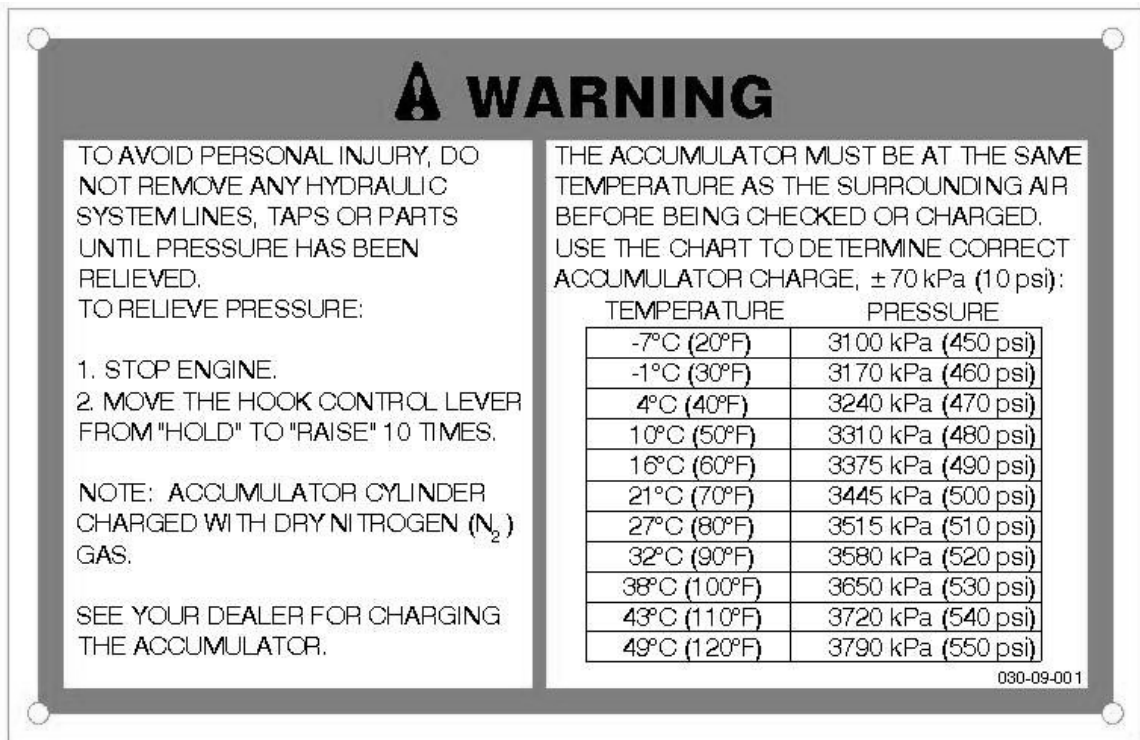
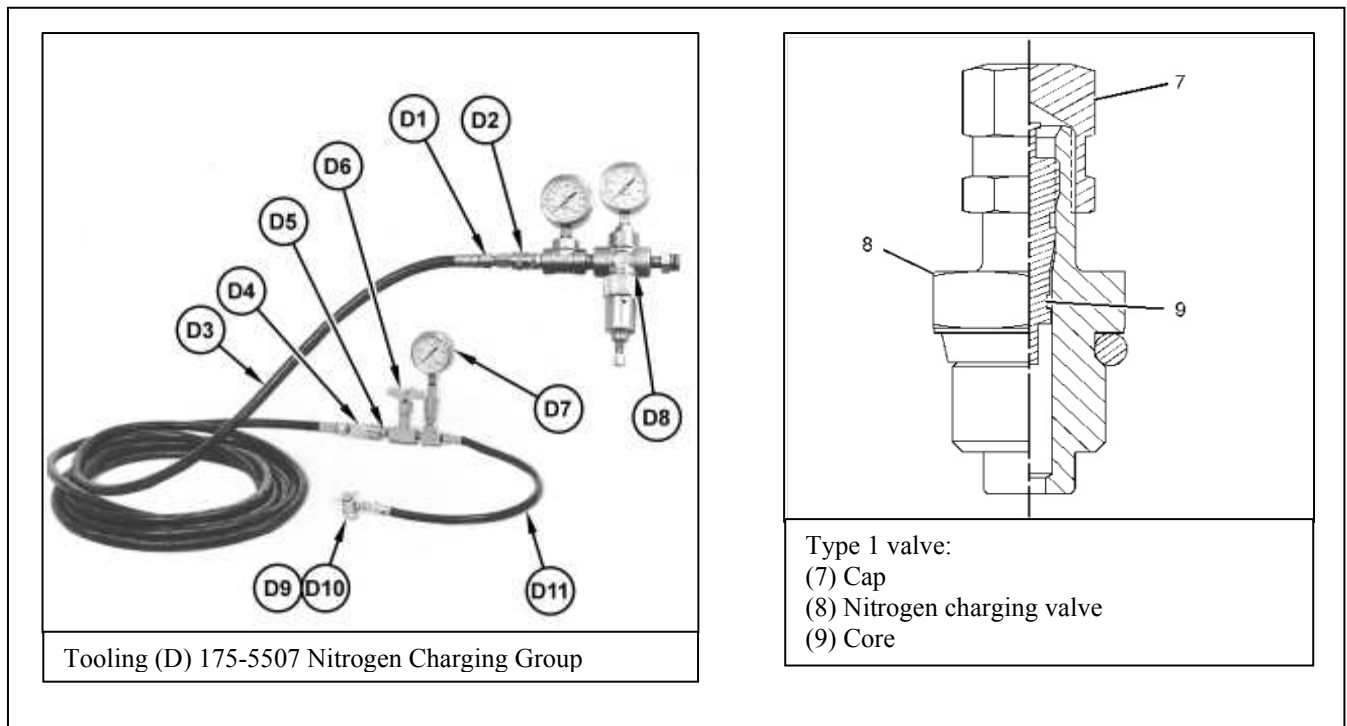

Figure 30: Accumulator high pressure warning and charge decal; located on main guard cover on the right-hand side of pipelayer.
Figure 36: Type 1 Valve references
1. On the accumulator, remove cap (7) on nitrogen charging valve (8).
4. Attach nitrogen charging chuck (D9 or D10) and hose assembly (D11) to nitrogen charging valve (8).
5. Attach hose assembly (D11) between nitrogen charging chuck (D9 or D10) and the tee. Install needle valve (D6) to the tee. Refer to Figure 36. Install pressure gauge (D7) in the remaining open port on the tee.
7. Turn valve handle of nitrogen charging chuck (D9 or D10) in the clockwise direction in order to open nitrogen charging valve (8).
9. Adjust pressure regulating screw on the regulator to obtain the correct pressure reading on the gauge, refer to Figure 30 for the correct pressure reading based on temperature. Use tooling (F) to determine the correct temperature.
3. Install regulator assembly (D8) on nitrogen tank valve. Adjust the screw on regulator (D8) to set the appropriate charge pressure. Refer to Figure 30 for the correct pressure reading based on temperature. Use tooling (F) to determine the correct temperature.